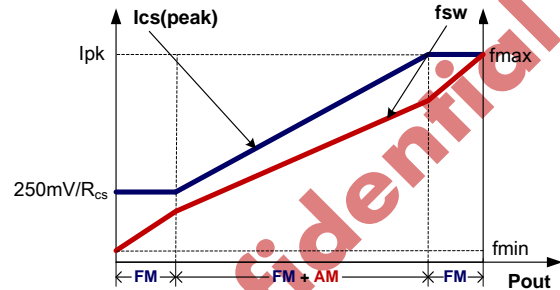

Fig.3
To meet the tight requirement of averaged system efficiency and no load power consumption, a hybrid of frequency modulation (FM) and amplitude modulation (AM) is adopted in KP214LG which is shown in the Fig 3.